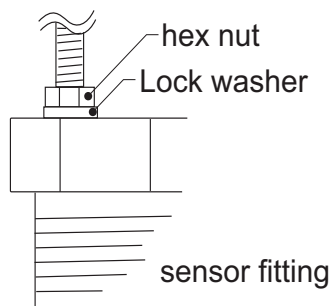

Fig. 8
- Thread one hex nut onto each of the three threaded rods included in package. Install threaded rod with a lock washer onto the sensor fitting. Secure rods in place by tightening each hex nut against the sensor fitting. (Fig. 8)